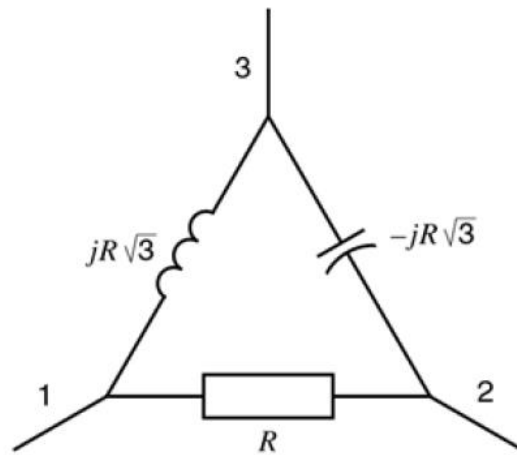

Figure 3
When a single-phase resistive (R) load is connected across two phases of a three-phase source, it creates a highly unbalanced system (i.e., two of the line currents are equal but opposite in phase, while the third line current is zero). It is possible to balance this circuit perfectly (i.e., all line currents are equal, and in phase with their respective phase voltages) by using an inductor and capacitor with specific values as shown in Fig. 3. Further, it is essential that the phase sequence should be 1-2-3.